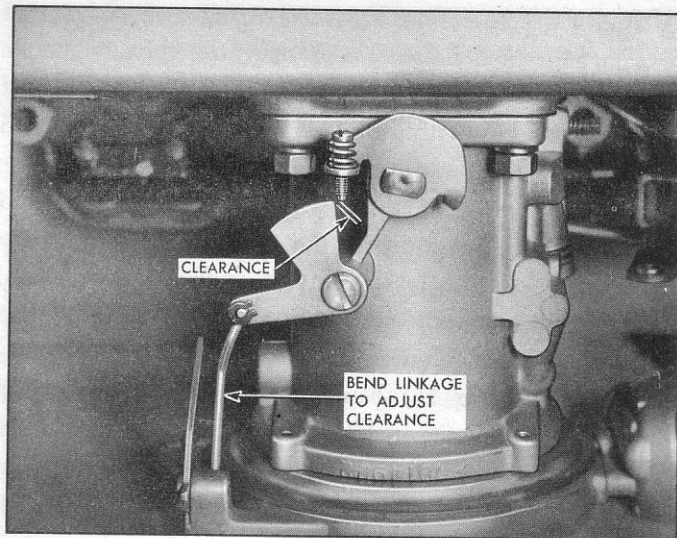

Fig. 22—Fast Idle Speed Linkage Adjustment
1. Check the off position clearance between the fast idle cam and the adjusting screw. Bend the linkage to obtain clearance (fig. 22).